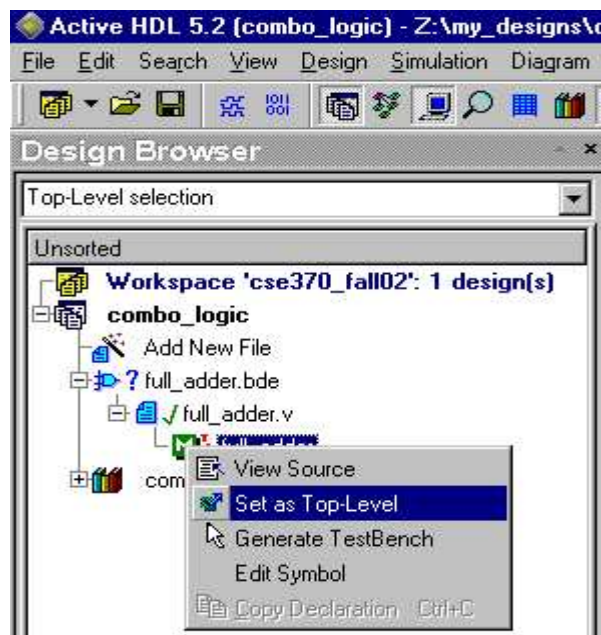

Figure 28
4. Select the “Set as Top-Level” option (Figure 28). If you do not set the top-level, Active-HDL will prompt you to do so when you attempt to initialize a simulation.